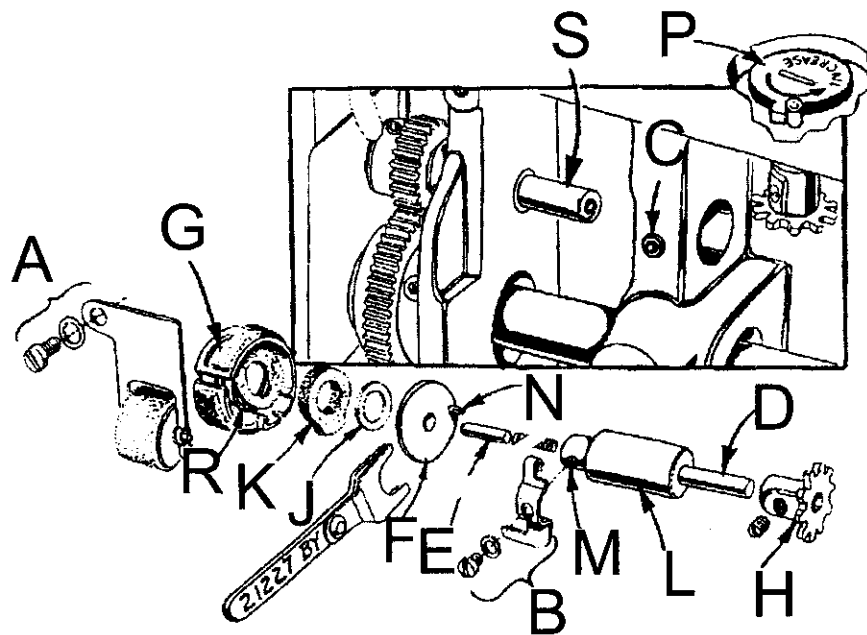
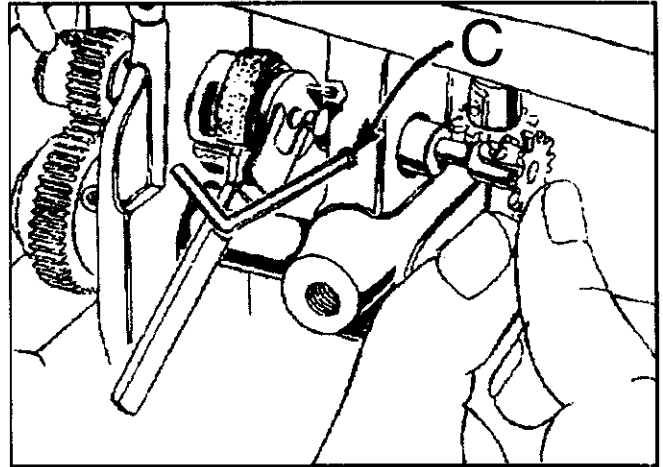

Fig. 21
Fig. 23
Hook oiling is accomplished by a high speed rotary pump on the end of the hook shaft. The quantity of oil supplied to the hook is regulated by the longer or shorter path the oil is required to travel through the metering felt of metering cup (G, Fig. 21). (Increase or decrease of oil supply is controlled by a dial (P, Fig. 21) with an arrow marked "INCREASE", found below the cloth plate.) The hook oil feed roller (A, Fig. 21) which rests against the metering cup felt serves not only to feed oil to the unit from the oil reservoir, but filters the oil as well.
1. Remove hook oil feed roller (A, Fig. 21).
2. Remove hook oil control finger (B, Fig. 21).
3. Apply finger pressure to hook oil control shaft (D, Fig. 21) to prevent loss pump disc pivot pin (E, Fig. 21); using Allen wrench, loosen set screw (C, Fig. 21). Move assembly slowly to right, being careful not to drop pivot pin located on the end of the hook oil control shaft. When pivot pin is clear of pump disc (F, Fig. 21), disc is free to fall.
4. Remove metering cup (G, Fig. 21) along with oil supply felt (K, Fig. 21) and air seal felt (J, Fig. 21).
5. Remove cop (H, Fig. 21) from hook oil control shaft.
1. Remove and separate the air seal felt (J, Fig. 21) from oil supply felt (K, Fig. 21).
2. Make sure small end of air seal spring (R, Fig.21) is located on boss of metering cup behind felt attached to cup. Position the metering cup (G, Fig. 21) and air seal spring on the hook shaft (S, Fig. 21) with open end toward handwheel end of the machine (Fig. 21).
3. Position oil supply felt (K, Fig. 21) on the hook shaft, making certain the felt's projection extends into dovetail of metering cup.
4. Position air seal felt (J, Fig. 21) on hook shaft.
5. Insert pump disc (F, Fig. 21) into assembly tool No. 21227BY, with the stop pin on the spring side of tool, 180° from handle. Insert disc approximately half way into the spring and center in tool (Fig. 21).
6. Insert hook oil control shaft (D, Fig. 21) and its bushing (L, Fig. 21) part way into its boss which is located directly behind the hook shaft, being careful NOT TO DROP the pump disc pivot pin (E, Fig. 21).
7. A clearance cut on the edge of the metering cup, located between the dovetail and the long horizontal slot, has been provided for the pump disc tool and should be facing you (Fig. 21).
9. Press hook oil control shaft bushing (L, Fig. 21) to the left until control shaft (D, Fig. 21) is approximately 1/16 inch away from pump disc (F, Fig. 21). Make sure the control shaft pivot pin (E, Fig. 21) seats in the depression at the center of the pump disc. Tighten set screw (C, Fig. 23) and withdraw assembly tool. Be sure air seal felt (J, Fig. 23) has seated against the pump disc.